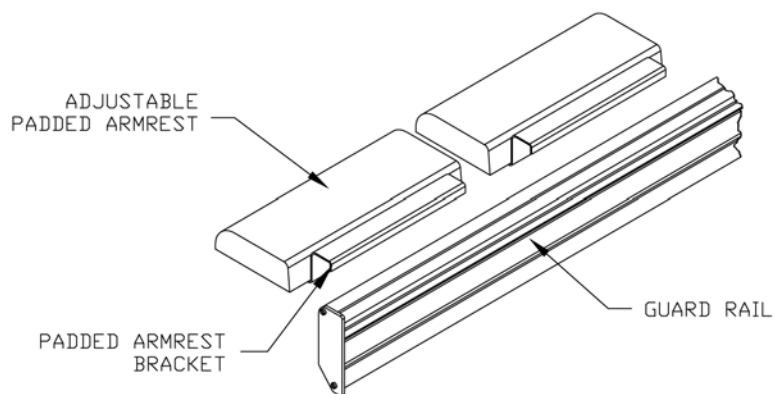

Fig. 5 Adjustable Padded Arm Rest Illustration.
2. To install the adjustable padded arm rests simply drop onto the guardrail (as shown Fig. 5). They can then be slide into any position desired.